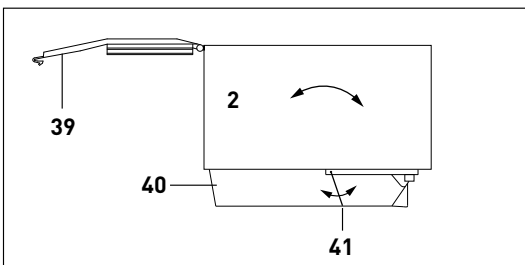

Figure 16
There is a non-return flap (41) in the air duct (40) on the bottom of the dust container (figure 16). Check this flap for free movement every time the dust container is emptied. It should move freely when the dust container is shaken back and forth. If this flap is blocked by debris, the air path will be obstructed resulting in poor suction.
Remove the Dust Container (see page 10). There is a non-return flap (41) in the air duct (40) on the bottom of the dust container (figure 16). Check this flap for free movement. It should move freely when the dust container is shaken back and forth. If this flap is blocked by debris, the air path will be obstructed resulting in poor suction, and should be cleaned out.